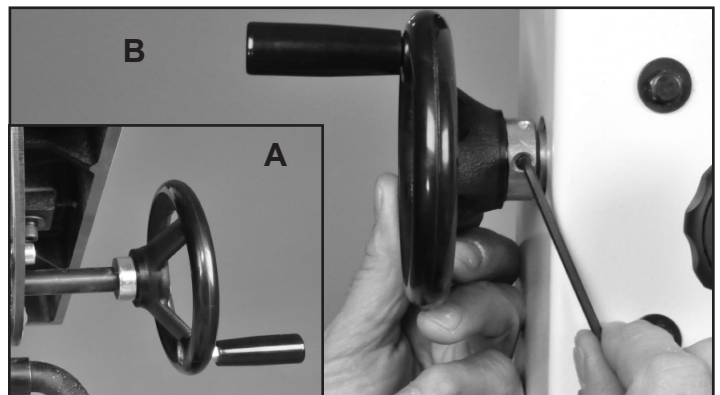

FIGURE 7
1. Attach the small Handle (#24B) to the Handwheel (#23B) that tilts the table. Then install this handwheel onto the Gear Shaft (#22B) extending out from the trunnion at the back of the machine. Fig. 7, A.
2. Attach the Handwheel (#38C) to the upper right side of the saw frame with the 5mm hex wrench. This wheel raises and lowers the blade guard. Fig. 7, B.
3. Attach the Handwheel (#26E) to the lower right side of the frame with the 5mm hex wrench. This wheel adjusts the motor drive belt tension. Fig. 7, B.
4. Install the Blade Tension Handwheel (#1D) to the top of the saw frame. No tools are needed, as the metal shaft of the handwheel has two simple pins that engage the Blade Tension Rod (#2D). Fig. 7, C.